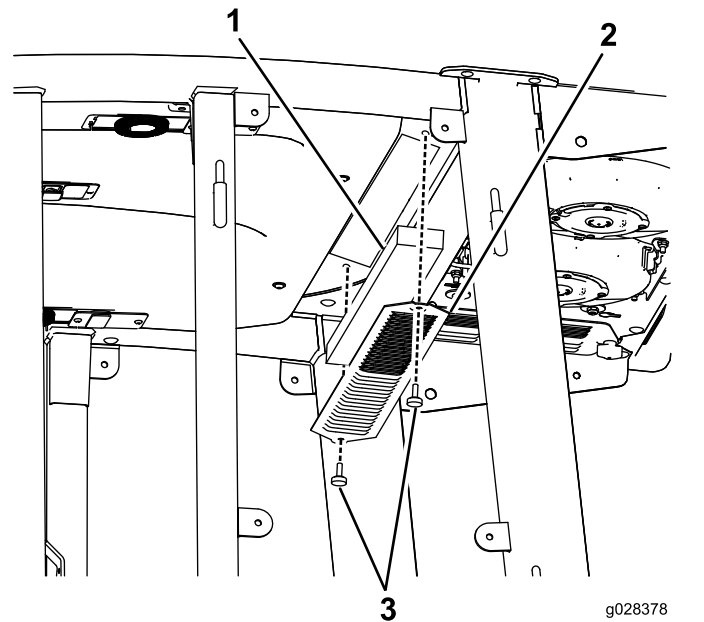
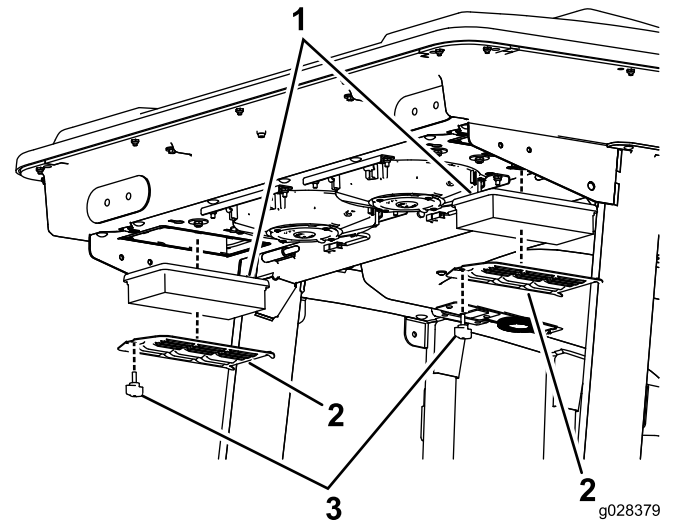
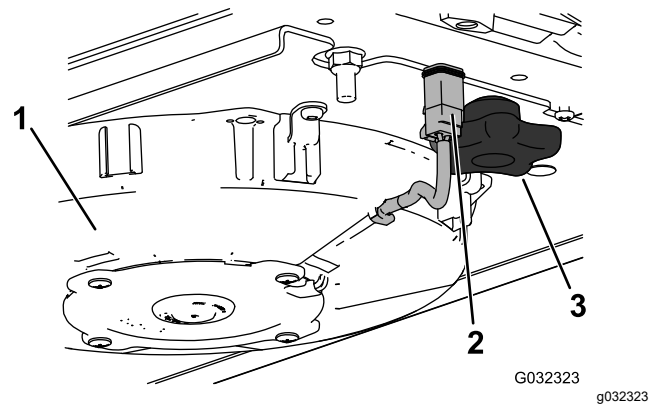
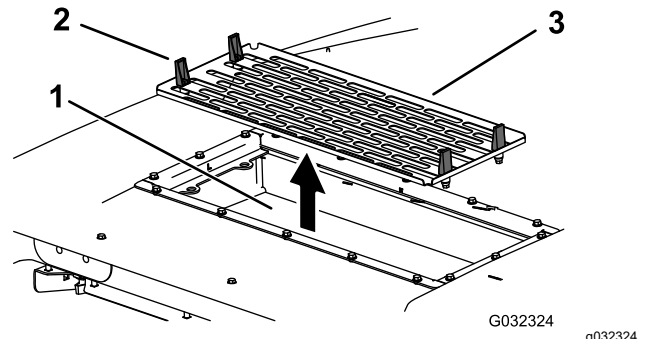

Figure 130
Figure 131
Figure 133
Figure 134
1. Remove the screws and grates from both the in-cab and rear cab air filters (Figure 130 and Figure 131).
4. Remove the air filters (see Figure 131).
6. Install the air filters, screen, and fan assembly (Figure 131, Figure 133, and Figure 134).
7. Connect the wire for each fan (Figure 133).